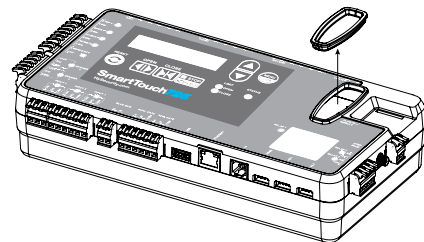

Figure 49. Remove OXI Receive Port Rubber Plug
1. Remove the receiver port rubber plug. (Figure 49)